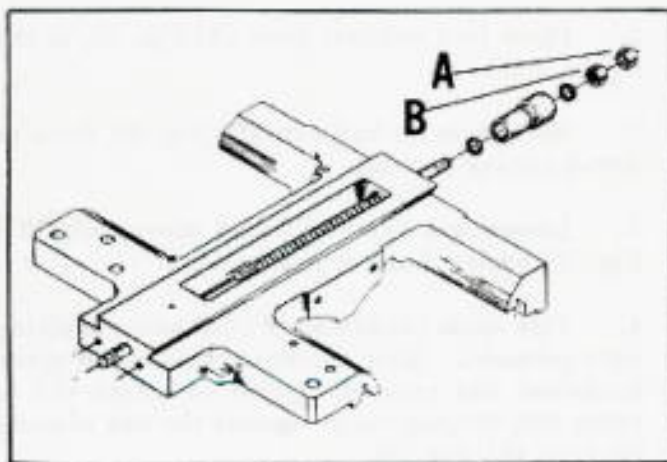

Fig. 27.
1. To remove end play of the cross slide feed screw, loosen lock nut (A) Fig. 27, make the adjustment by tightening nut (B). When correct adjustment is obtained tighten lock-nut (A) Fig. 27.